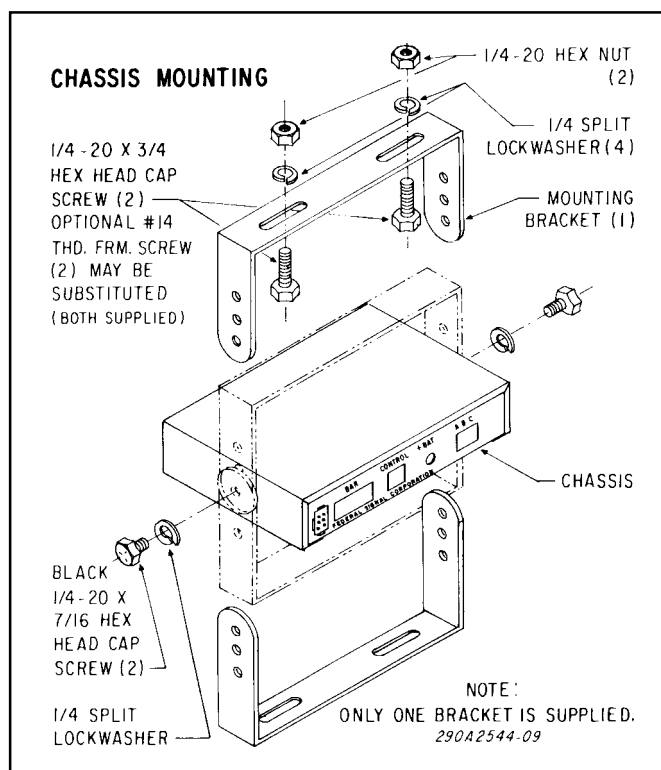

Figure 3-3. Mounting Bracket Installation.
C. Secure the mounting bracket to the mounting surface with (2 each) 1/4-20 x 3/4 hex head screws, 1/4 split lockwashers and 1/4-20 hex nuts as shown in figure 3-3.
A. See figure 3-3. Secure the Interface/Relay Unit to the mounting bracket with the BLACK 1/4-20 x 7/16 hex head screws and 1/4 split lockwashers. Ensure all fasteners are properly tightened.